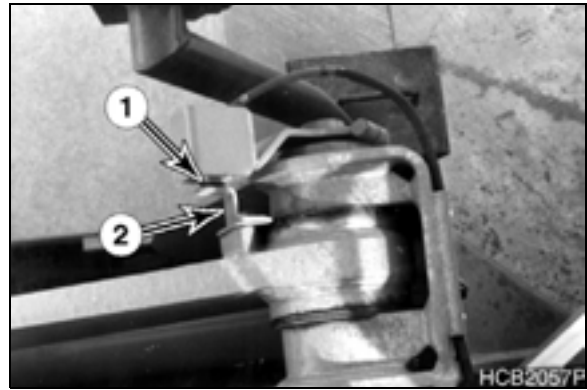

Figure 40
Placing bucket lever in "L" position will lock control lever in lower boom position. Boom will move downward until trip plate (2, Figure 40) makes contact with bucket lower limit switch (1). When limit switch is tripped, boom will stop lowering and bucket lever will automatically be returned to "NEUTRAL" position. Trip plate can be adjusted to control maximum height that boom can be lowered.